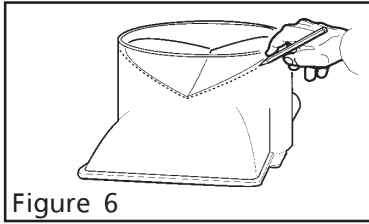

Figure 6
7. Install transition to top of hood (if removed for shipping). Snap damper into transition, foam tape up, with firm pressure at either end. Mark onto exterior of transition the 'V' location of the damper within. See Figure 6.